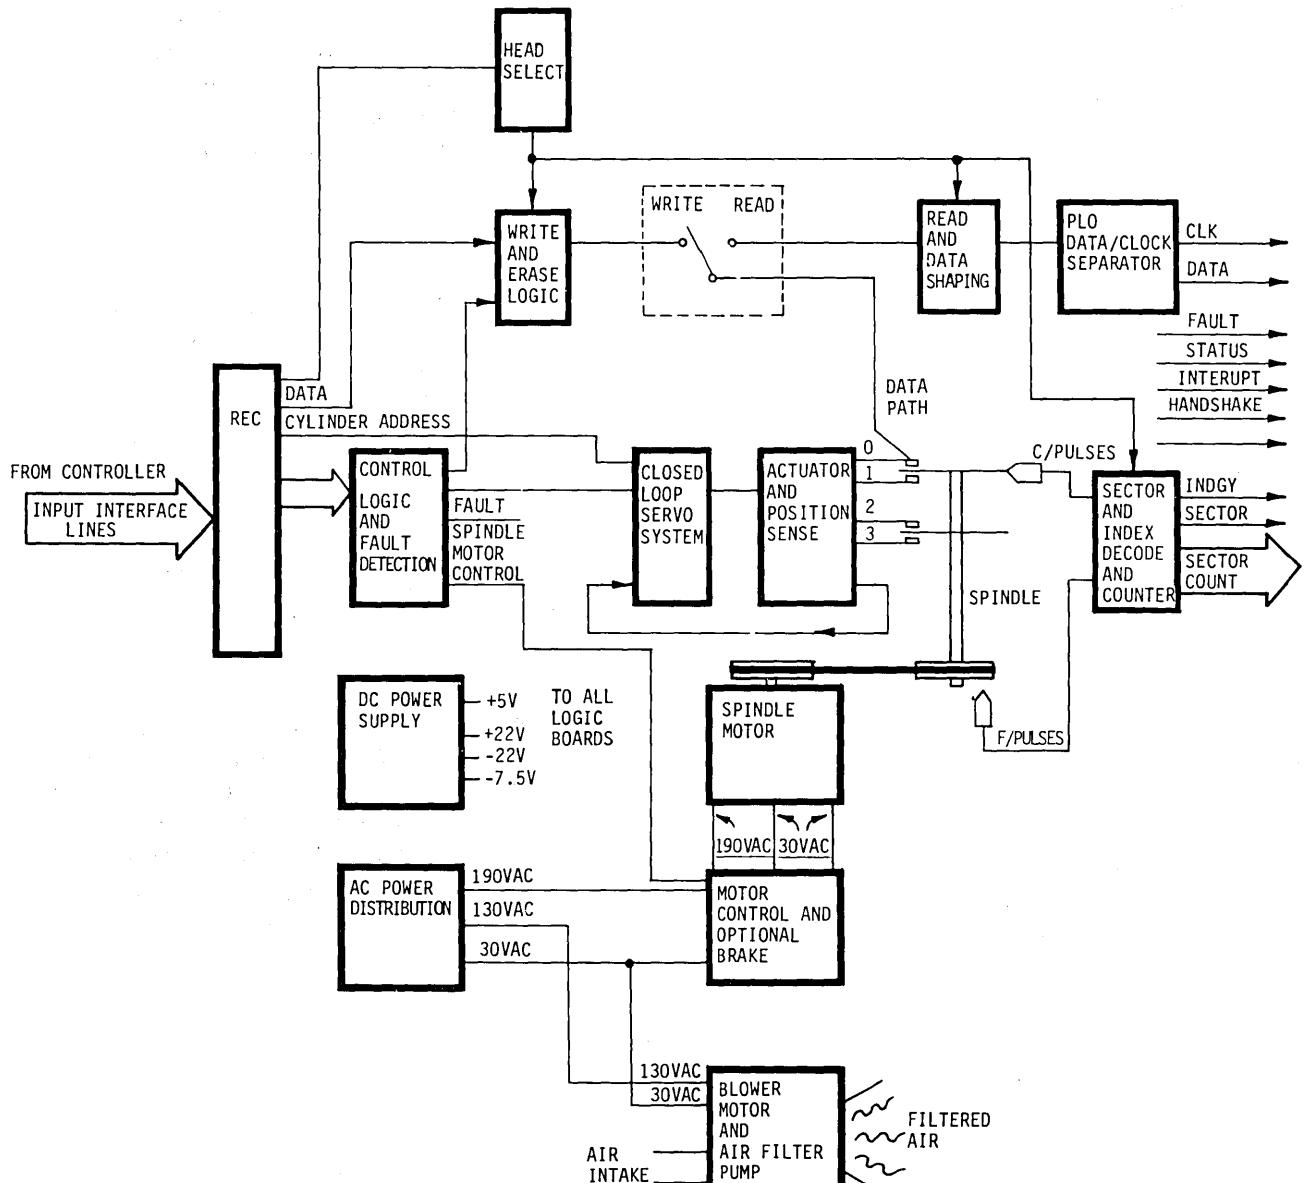

FIGURE 1-2. FUNCTIONAL BLOCK DIAGRAM
1.4 FUNCTIONAL BLOCK DIAGRAM (FIGURE 1-2)